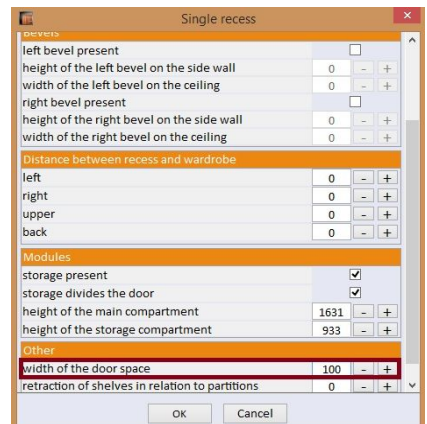

Fig. 66 – setting the width of space provided for door
- click the **'Recess dimensions'** button and in the new window change the value of the **'width of the door space'** (Fig. 66),